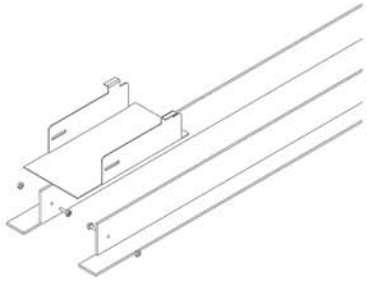
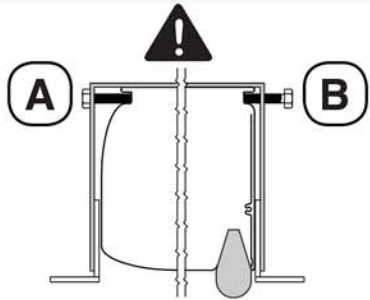

Figure 4a
Figure 4c
Attach the two access side panels (E) to the ends of the L shaped brackets (see fig 4a). Now that the trimkit has been constructed, you can attach it to the screen housing via the U brackets (see fig 4c).